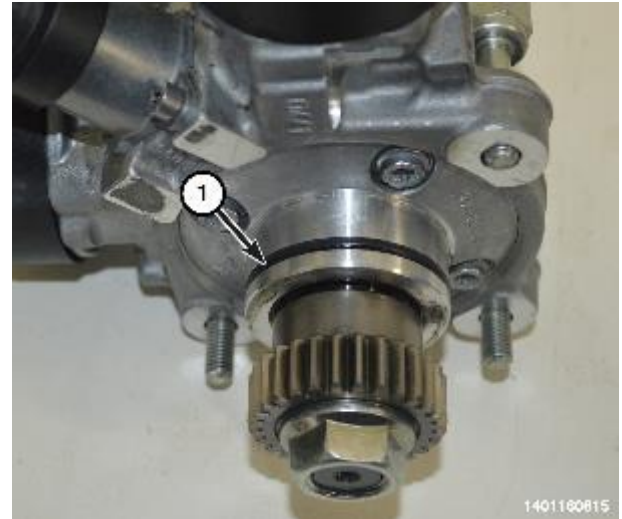

Figure 200 – O-ring
- 45. Install a **NEW** O-ring (1) to the high-pressure fuel injection pump (Figure 200).